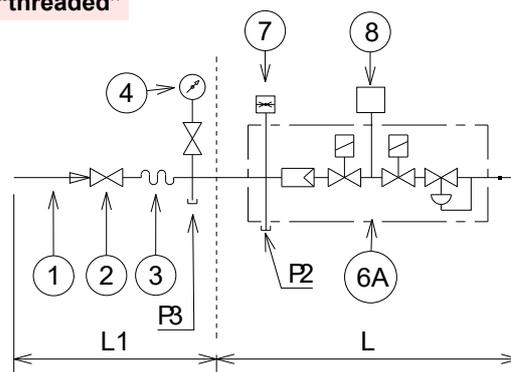
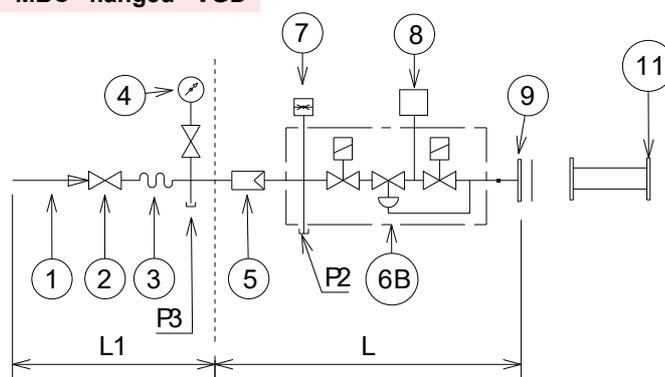
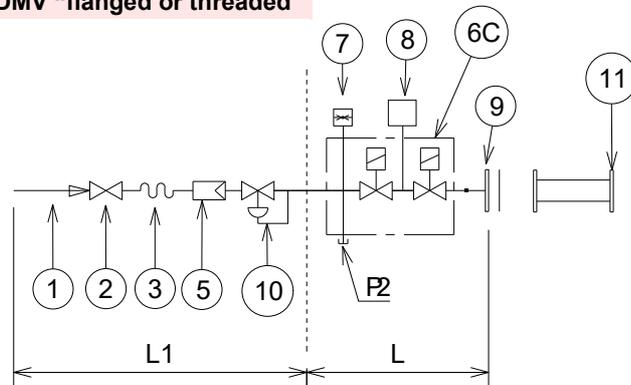
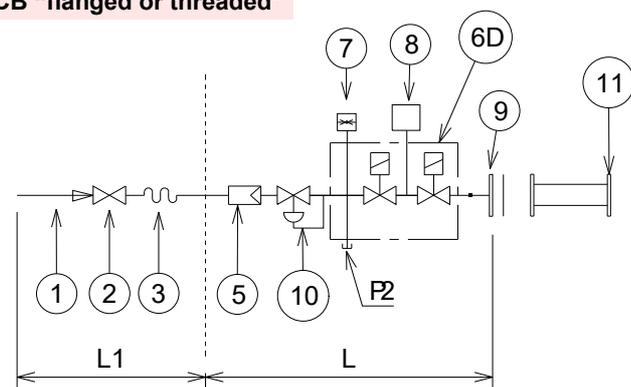

Fig. 21
Fig. 22
Fig. 23
Fig. 24
Key (Fig. 21 - Fig. 22 - Fig. 23 - Fig. 24)
Gas pressure measured at the test point P1)(Fig. 21), with:
- subtract the combustion chamber pressure from the gas pressure measured at test point P1)(Fig. 21).
Gas pressure at test point P1)(Fig. 21) = 58.1 mbar
To calculate the required gas pressure at test point P1)(Fig. 21), set the MAX output required from the burner operation:
- read, on the right (column 1), the pressure at the test point P1)(Fig. 21).
Pressure required at test point P1)(Fig. 21).